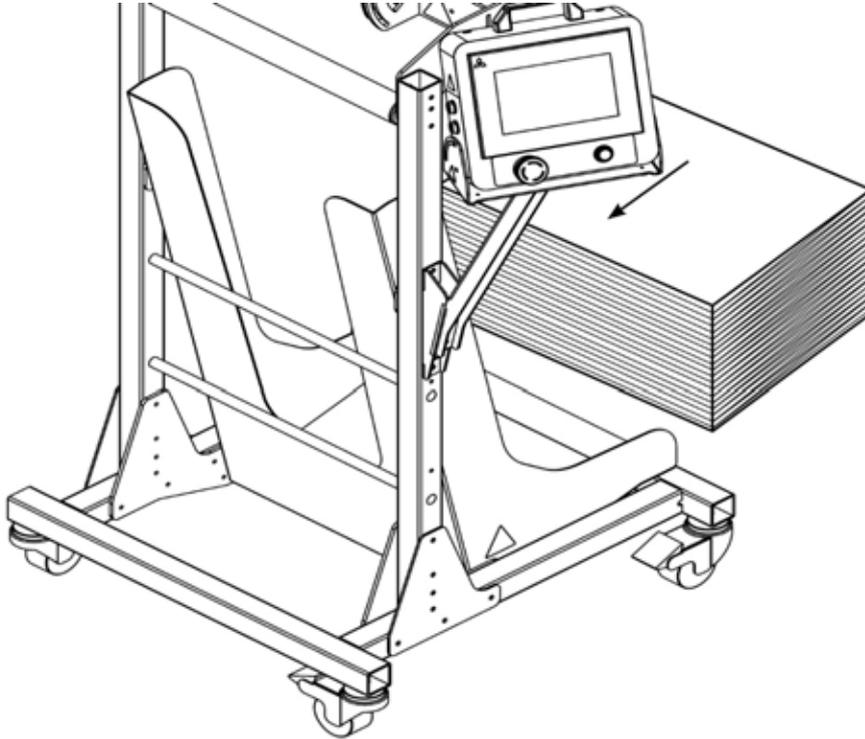

Figure 15 Place Paper Supply on the System
4. Push the **Reset Button** (refer to Figure 15).